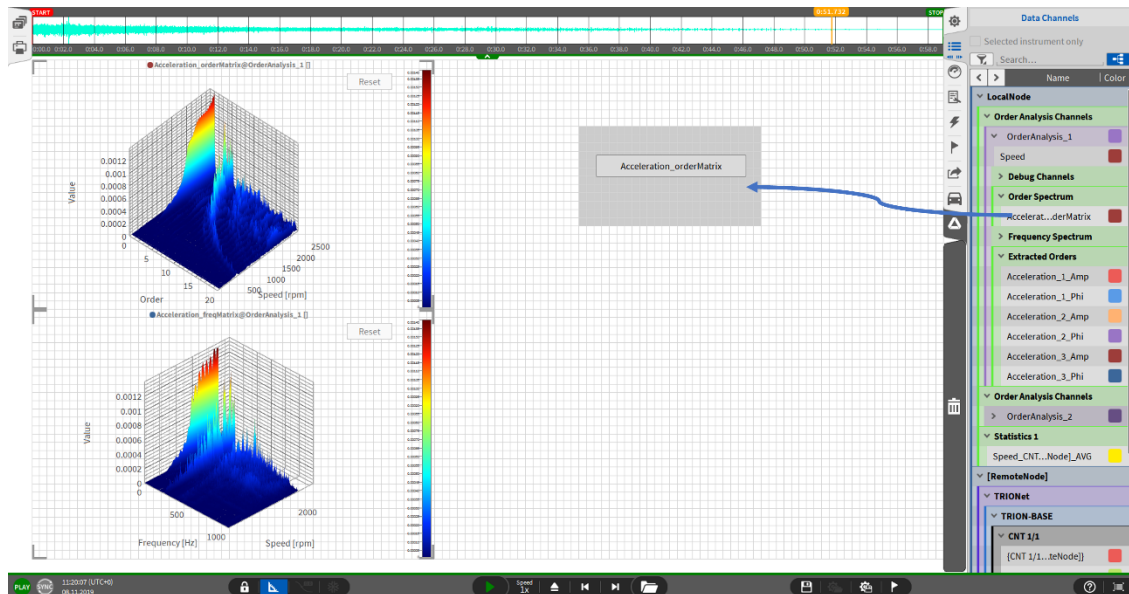

Figure 2-7: Display order matrix on the measurement screen
- Drag order matrix channel (= orders over speed) onto the screen (see Figure 2-7:)